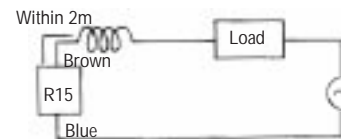

Fig. 7 ● Choke coil
- If the lead wiring exceeds 10 meters, be sure to provide a protection circuit as shown in Figures 7, 8 (for R15/R25) or Figure 9 (for R35).